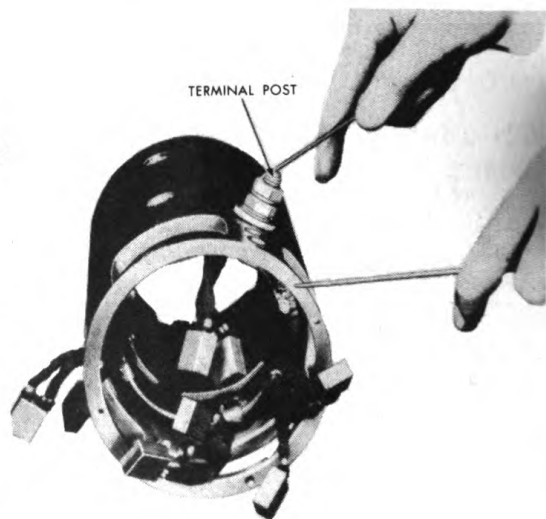
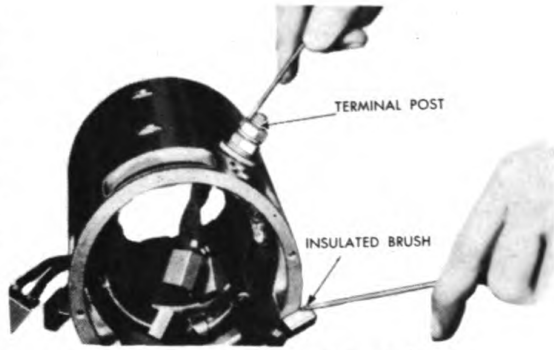

Figure 258. Testing Field Coils for Grounds.
Figure 259. Testing Field Coils for Open.
2. Check the field coils and terminal posts for grounds and open circuits with test lamp. Make sure the brushes are not touching the frame or connections, and touch one probe to the terminal post and the other probe to the frame as illustrated in Figure 258. If a ground is present, the lamp will glow. Touch one probe to the terminal post and the other probe to one of the insulated brushes, as illustrated in Figure 259. If an open is present, the lamp will not light.